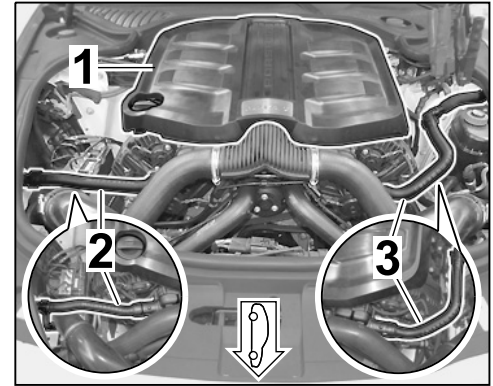

Figure 6
- 2.1 Remove engine cover (design cover) (⇒ *Figure 6*).